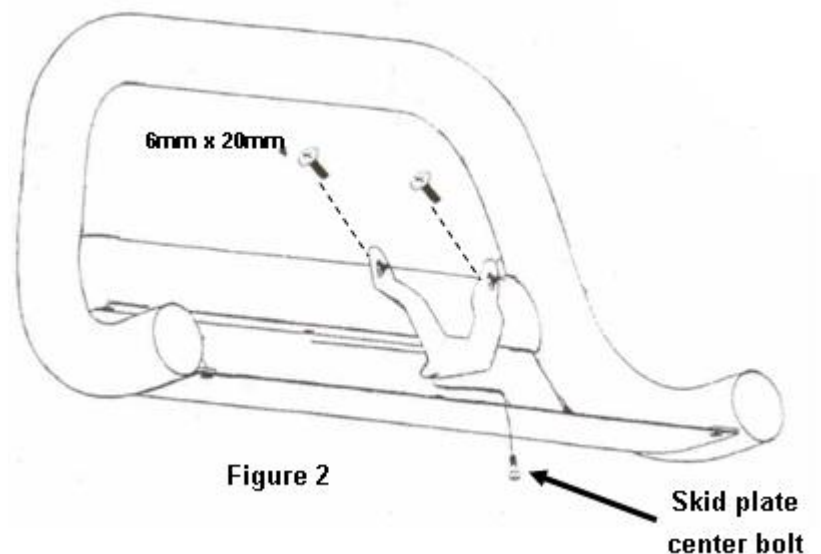

Figure 2
2. Remove center skid plate bolt from Bull Bar. Position Relocation Bracket against cross tube and on top of skid plate. Attach Relocation Bracket to bull bar using the skid plate bolt removed in this step (Figure 2). Tighten at this time